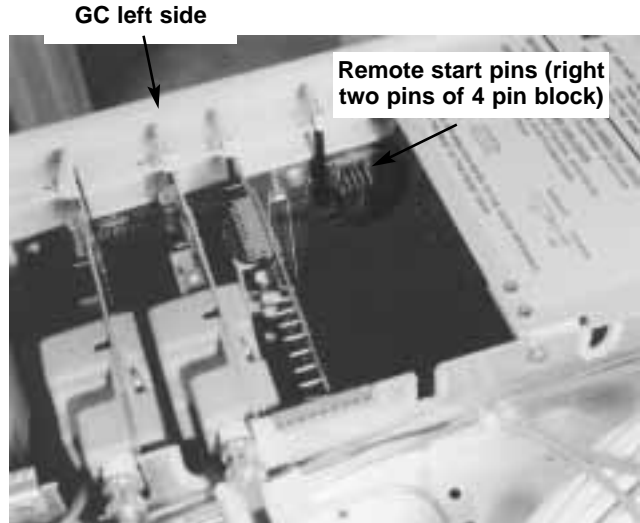

Fig 3.10 The pins for the remote start on the Varian 3400 are located on the left side of the interior of the GC.
10. With the covers still removed locate the pins for the remote cable installation on the GC control board. See **Figure 3.10** and **Figure 3.2**. See information found in the Varian 3400 manual concerning installation of GC remote input cable.